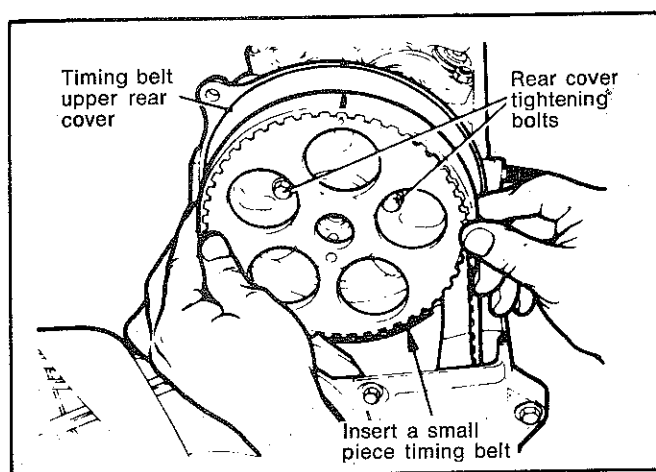

Fig. 14—Camshaft sprocket removal
(11) Rest the sprocket on the sprocket holder (Fig. 14). If the clearance between the sprocket and holder is excessive, pack the holder with a piece of old belt or similar packing, thus preventing the belt and sprocket falling out of mesh.
(12) Remove the three bolts retaining the upper rear cover (Fig. 14), then remove the cover.